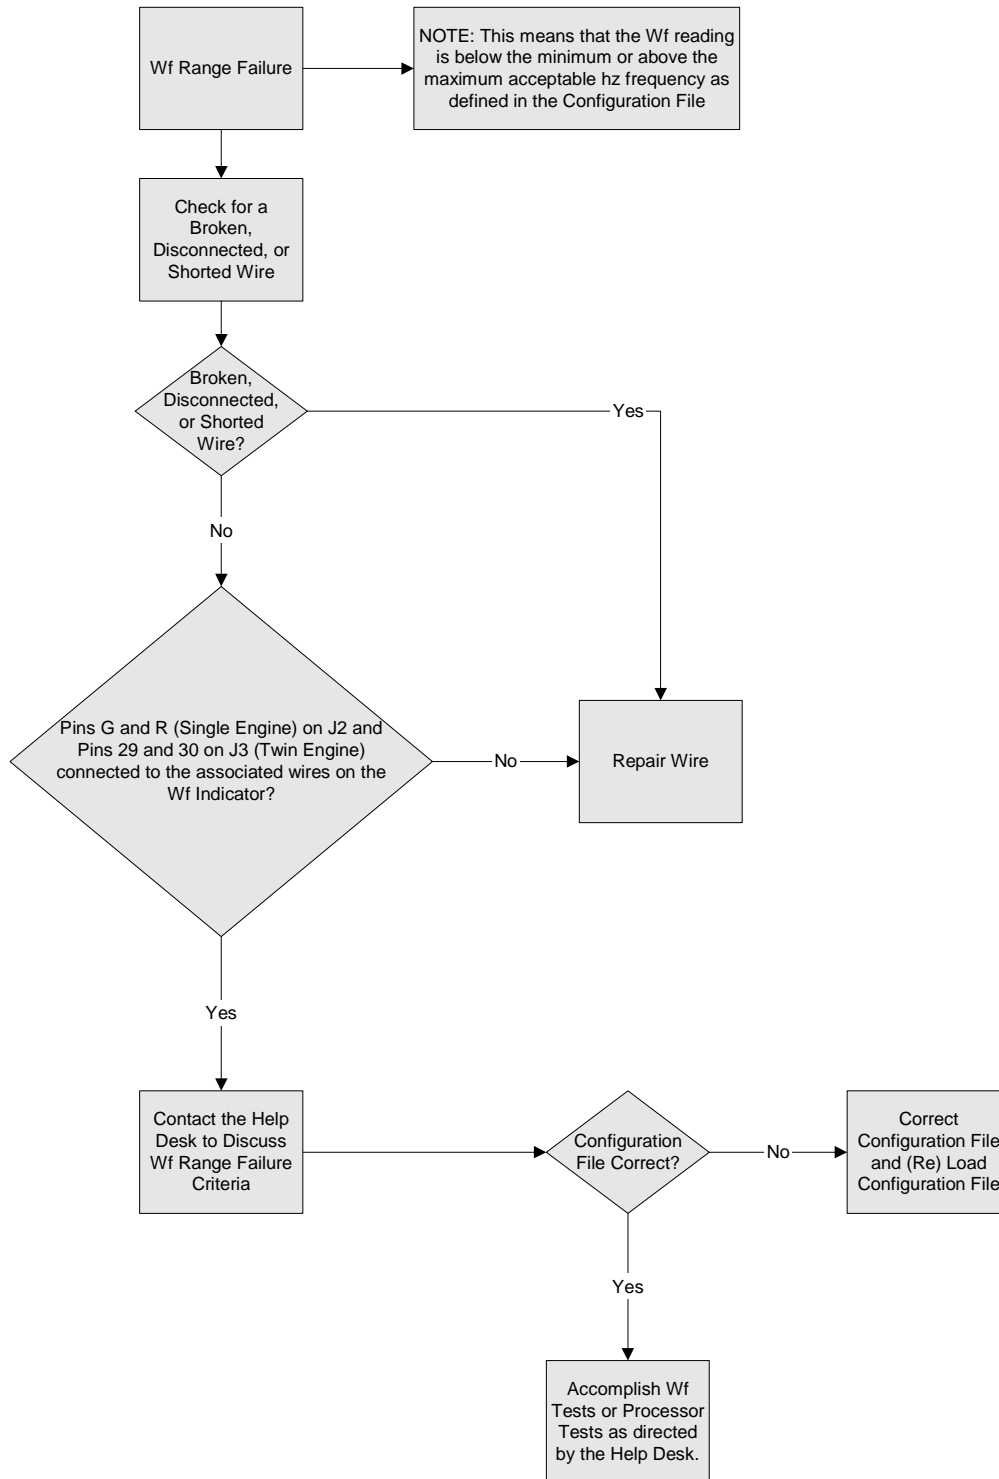

Figure 37: Fuel Flow (Wf) Range Failure Troubleshooting
- a. Range Failure – Refer to Figure 37